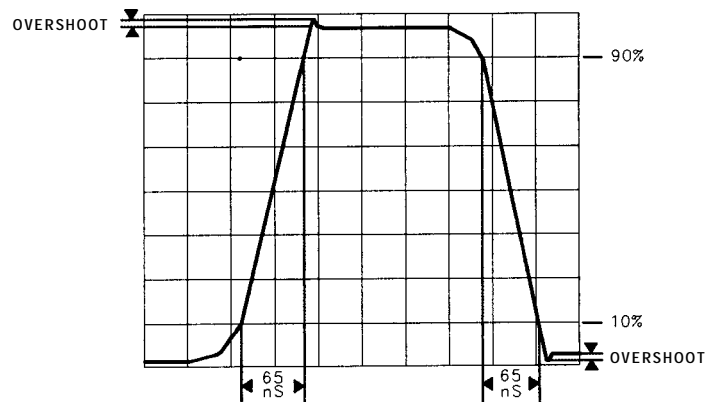

Figure 3-28. Rise and Fall Times and Overshoot Adjustment Waveform
- Use the oscilloscope $\Delta t \Delta V$ markers to measure the risetime, falltime, and percent overshoot of the composite Xdeflection waveform. Rise and fall times should both be less than approximately 65 ns between the 10% and 90% points on the waveform. Overshoot should be less than 3% (approximately 0.25 divisions). See Figure 3-28.